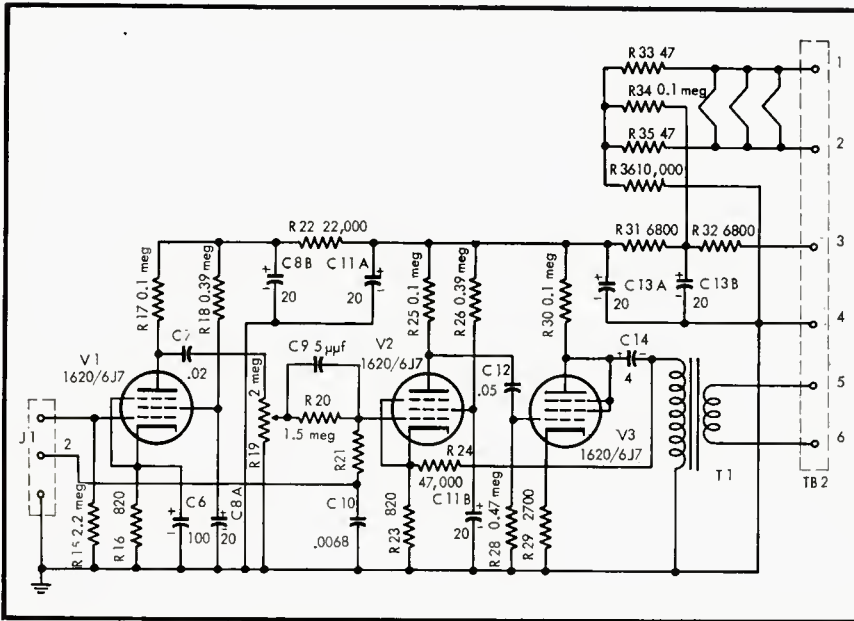

Fig. 4. Schematic of the amplifier. When used to feed a high-impedance amplifier following the preamp, the transformer may be eliminated, as shown in Fig. 5.
1. *Common Ground.* All grounds for V_1 , V_2 , V_3 , the shield of the cable leading to the record-playback head, and the arm of S_1 were connected to a common lug well-soldered to the chassis at a point near V_1 . This common ground is identified as Point A in Fig. 4.